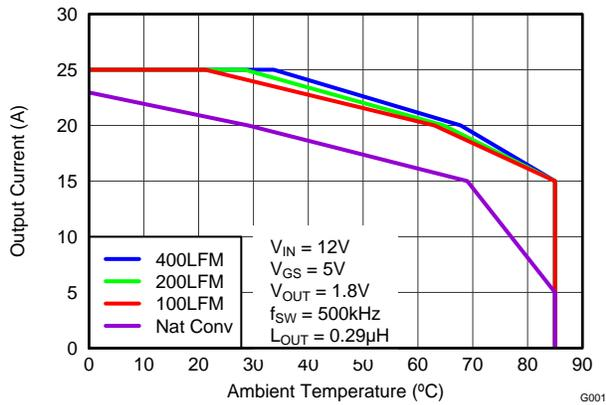
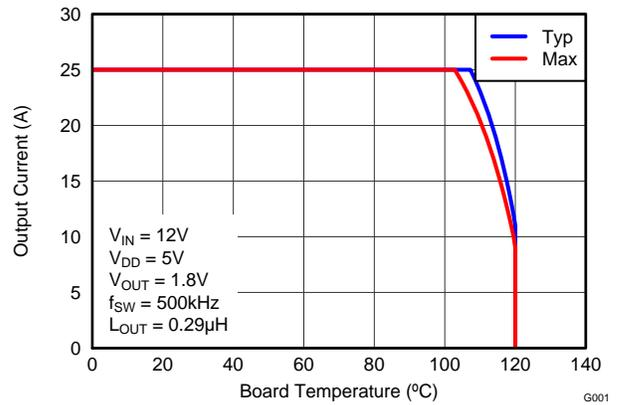

Figure 5. Safe Operating Area – PCB Horizontal Mount (1)
Figure 6. Typical Safe Operating Area (1)
The SOA curves in the CSD97374Q4M datasheet give engineers guidance on the temperature boundaries within an operating system by incorporating the thermal resistance and system power loss. Figure 5 and Figure 6 outline the temperature and airflow conditions required for a given load current. The area under the curve dictates the safe operating area. All the curves are based on measurements made on a PCB design with dimensions of 4.0" (W) x 3.5" (L) x 0.062" (T) and 6 copper layers of 1 oz. copper thickness.